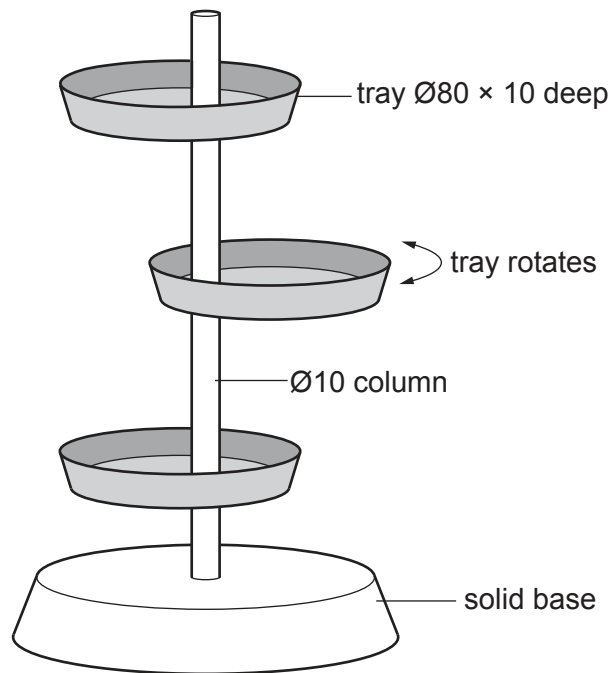

Fig. 12.1
- 12 Fig. 12.1 shows an incomplete design for a desk tidy.
- (d) Use sketches and notes to show how the trays could be supported on the column and allowed to rotate freely as shown in Fig. 12.1.